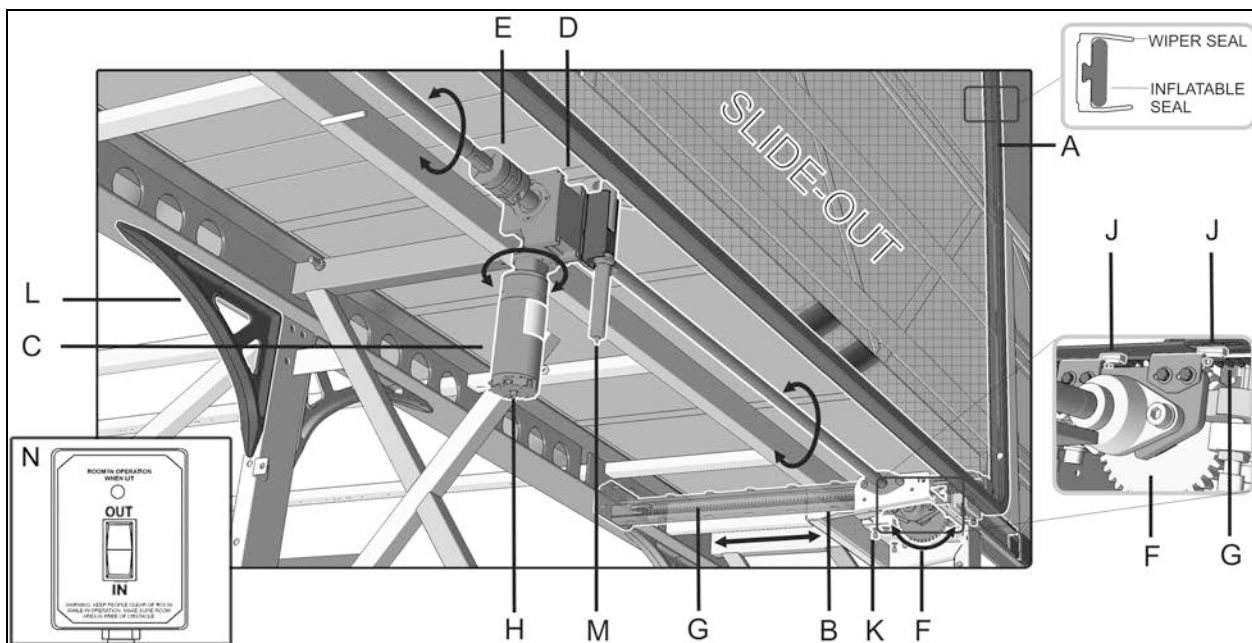

FIGURE 3: TYPICAL MECHANISM OVERVIEW
| FIGURE 3: TYPICAL MECHANISM OVERVIEW | 2 |
Each slide-out is moved in and out on rails resting on linear bearings Figure 3, (B). Power comes from one electrical motor (C). It is either oriented vertically or horizontally. The motor drives a right angle speed reducing gearbox (D).